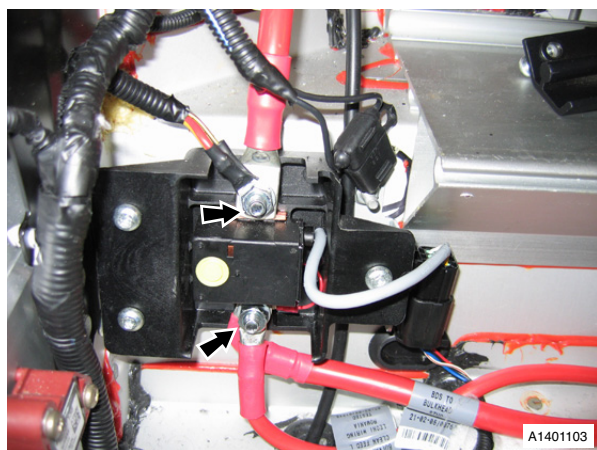

Fig. 1
8. Remove nuts/washers (x2), securing battery cables to battery disconnect switch (see Fig. 1).